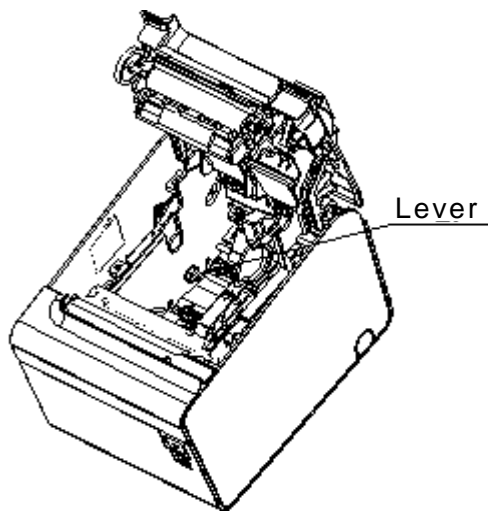

Figure C.2 Changing the Near-end Adjusting Position
- 3) Change the paper roll near-end sensor position to detect the paper near-end correctly when the printer is placed horizontally. (Refer to Figure C.2.)